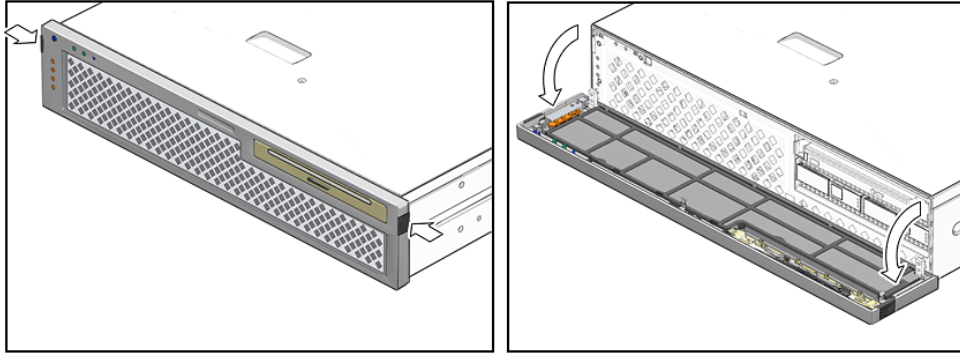

FIGURE 3-5 Opening the Front Bezel
1. Locate the green tabs on either side of the bezel and pull the bezel forward and down. See FIGURE 3-5.